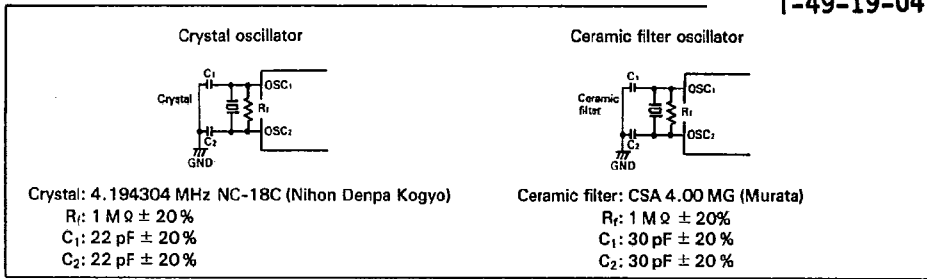

Figure 36. Oscillator Circuit
1. Oscillator stabilization time is the time until the oscillator stabilizes after  $V_{CC}$  reaches its minimum allowable voltage (3.5 V) after power-on, or after RESET goes high. At power-on or stop mode release, RESET must be kept high for at least  $t_{RC}$ . Since  $t_{RC}$  depends on the crystal or ceramic filter's circuit constant and stray capacitance, please get the manufacturer's advice when designing the RESET circuit. (See figure 36)